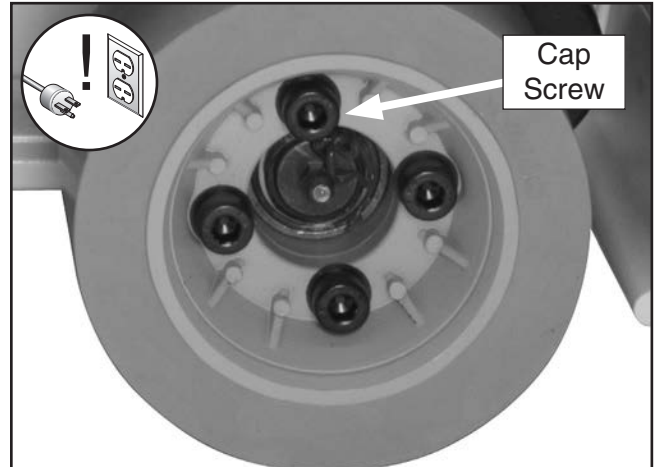

Figure 24. Wheel cap screws.
2. Remove (4) cap screws retaining wheel (Figure 24).